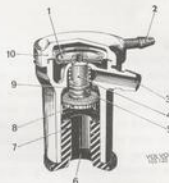

Fig. 2-97. Air valve
The air valve (Fig. 2-97) controls the connection between the venting filter and the carburetor venturi. The space above the diaphragm (1) is connected by a line to the carburetor venturi on the side of the throttle facing the induction manifold, see Fig. 2-94.